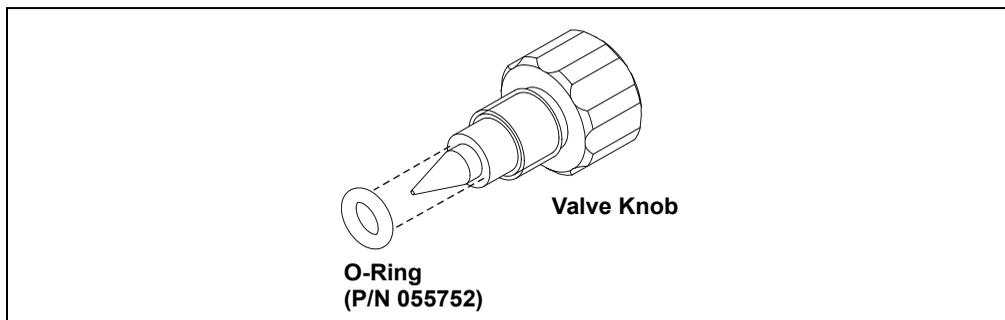

Figure 5-7. Waste and Priming Valves
1. Rinse the pump flow path with deionized water. Direct the flow to waste by opening the waste valve on the secondary pump head (see Figure 5-7). To open the valve, turn the knob one-quarter to one-half turn counterclockwise.
3. To remove the waste valve or priming valve from the pump head (see Figure 5-7), turn the knob counterclockwise until it is loose, and then pull the knob straight out of the cavity in the pump head.